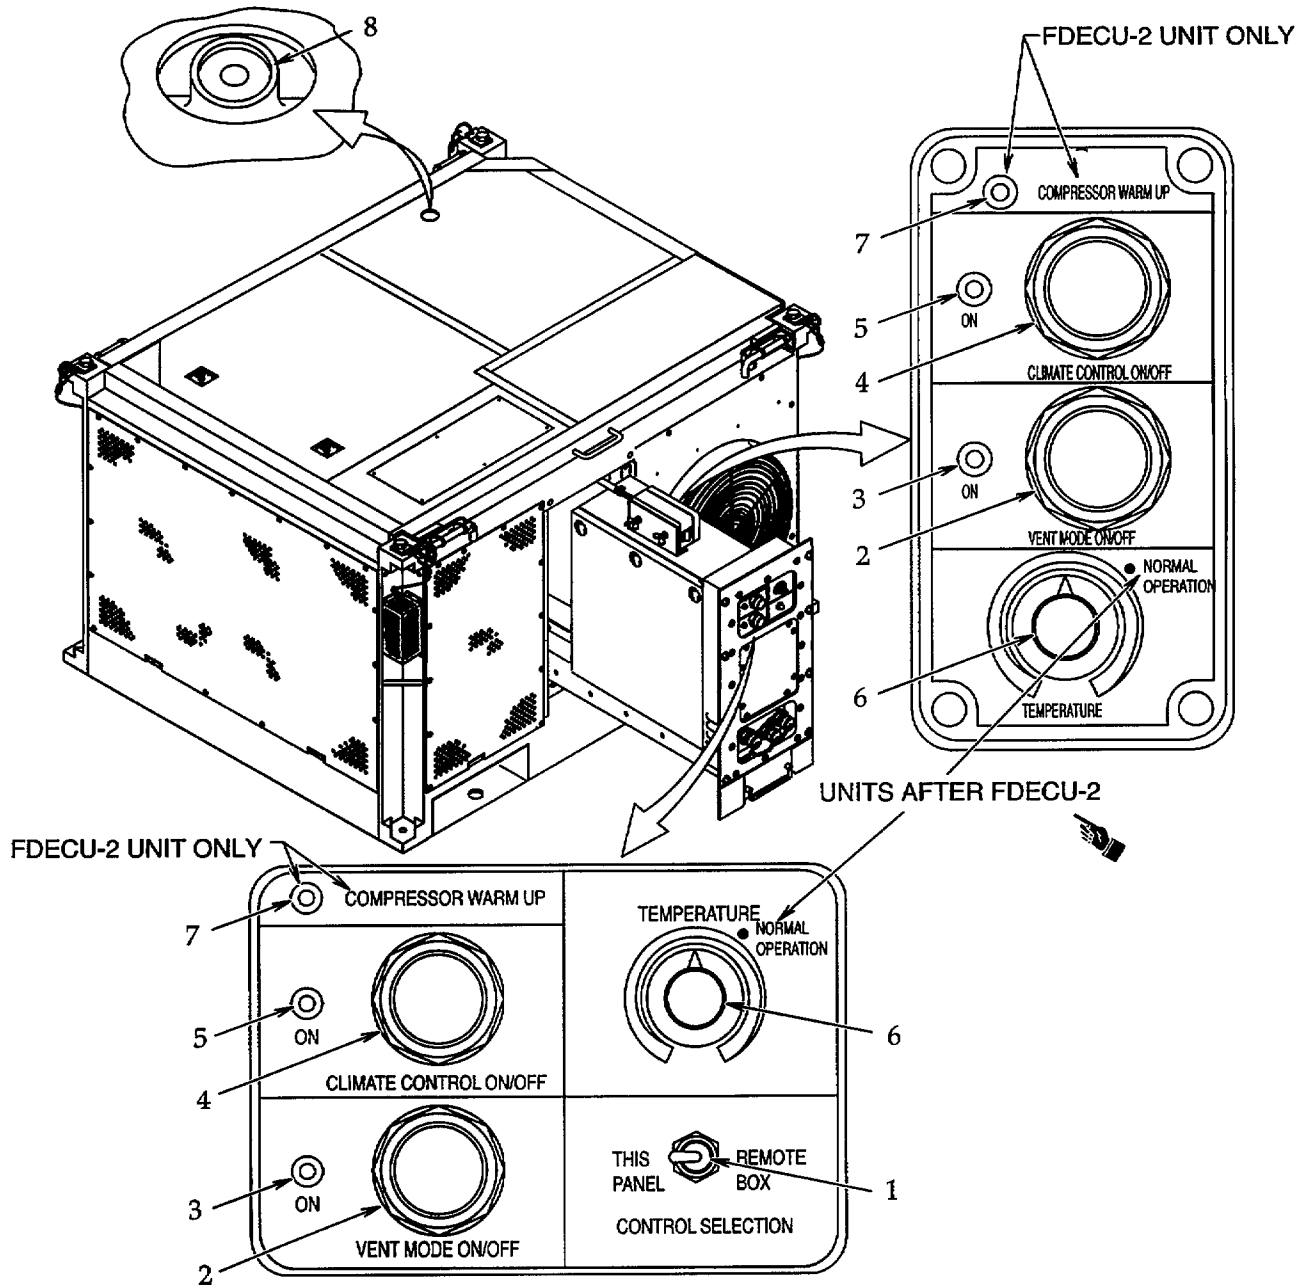

Figure 2-1. Operator Controls and Indicators.
2.1 DESCRIPTION AND USE OF OPERATOR'S CONTROLS AND INDICATORS. See figure 2-1.